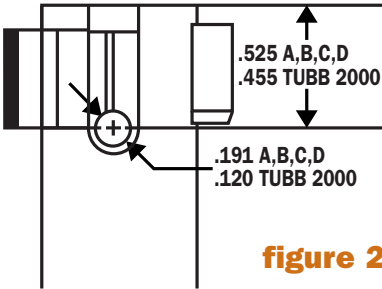
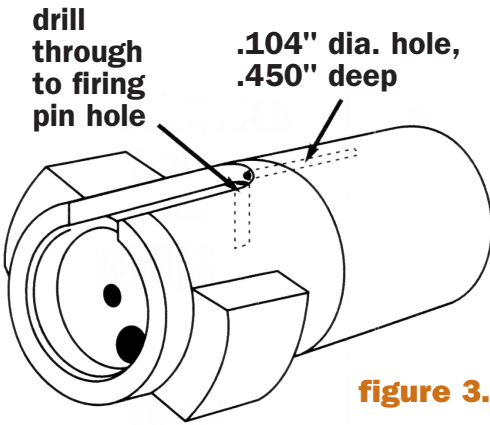

figure 2.
figure 3.
3. Use the appropriate end mill to cut the groove for the extractor. The length of the slot cut is shown in Figure 2. The depth of the slot is dependent on the diameter of the case the gun is chambered for. Refer to Figure 1 and its accompanying table for the correct slot depths and dimensions for different applications. Cut the slot in several passes; do not attempt to make the cut in one pass. Figure 3 shows the relationship of the slot to the bolt face.
5. Measure the extractor retaining finger and drill a hole .010" larger at the rear of the slot. This hole should be located so the rear edge of the hole touches the rear edge of the slot. Drill through into the firing pin hole in the center of the bolt body (Figure 2 and 3).